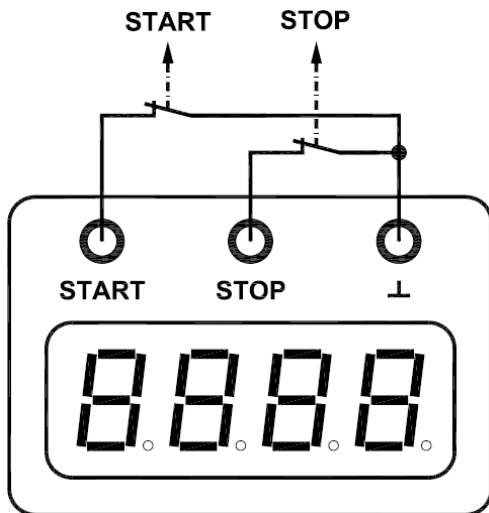

Fig. 1 Schematic circuit diagram of inputs
- Connect both inputs to normally closed switches (see Fig. 1).